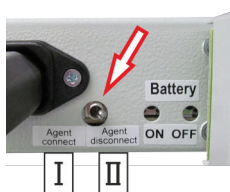

Fig. 3: Blocking switch
- Before the return transport of the complete system, switch the blocking switch (Fig. 3/arrow) to "Agent disconnect [blocked]" (Fig. 3/II).